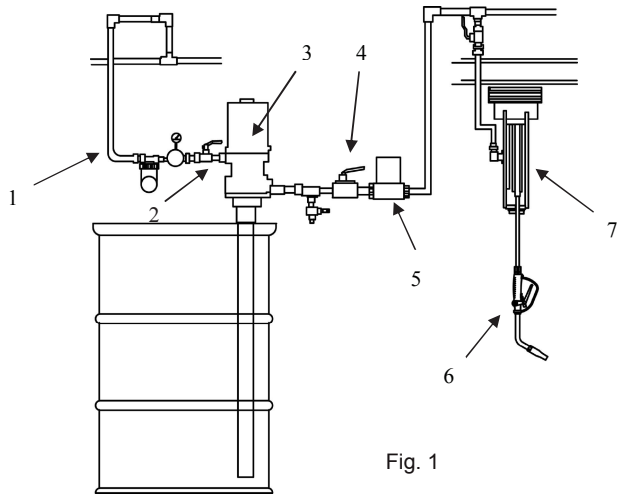

Fig. 1
Fig. 1 shows a typical installation.
The installation shown in Fig. 1 is only a guide. The components shown are typical; however, it is not a complete system design. Contact your distributor for assistance in designing a system to suit your particular needs.
1. Close the fluid shut-off valve (Item 4 in Fig.1)